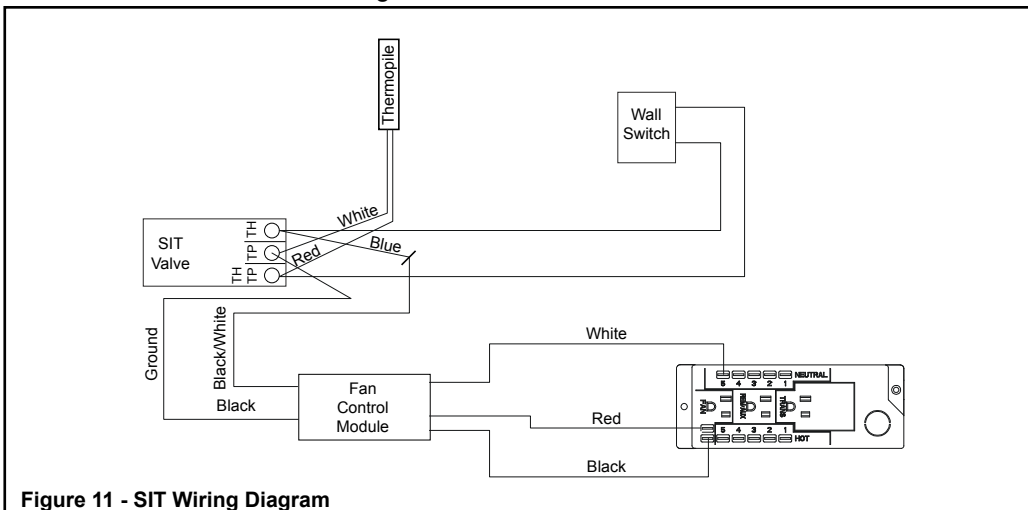

**Figure 10 - Dexen (IPI) Wiring Diagram**
- Connect the black, white and red wires with 1/4 in. female connectors from fan control module to appliance junction box as shown in Figure 10.